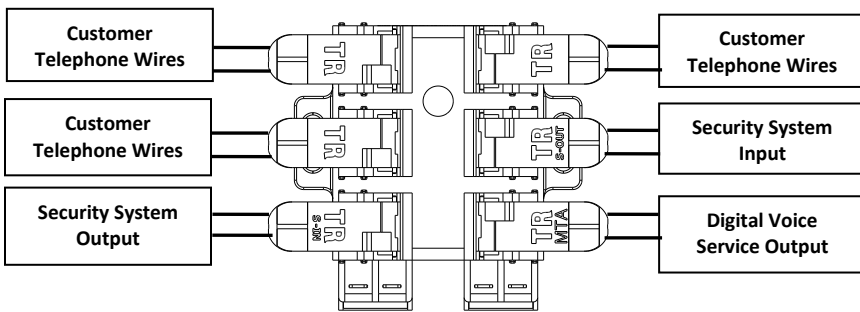

Figure 3
6. Terminate wires going to and from security system, and customer telephone wires as required following the above steps and using Figure 3 as a reference.